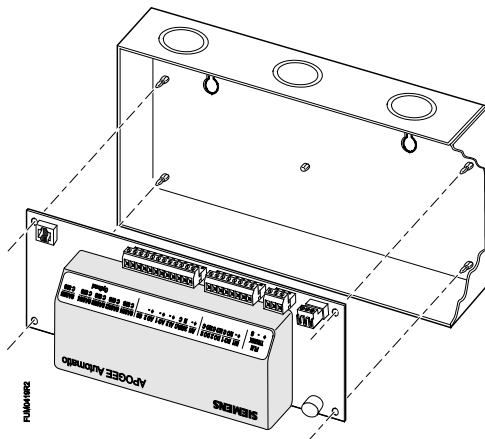
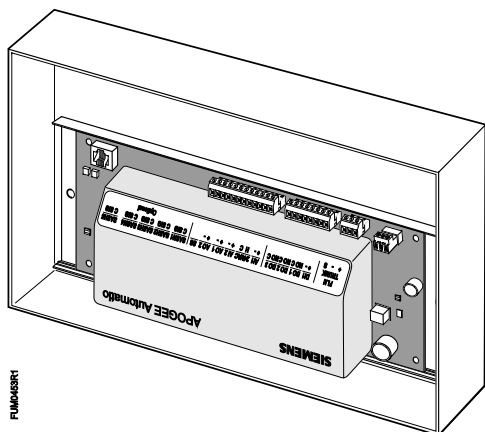

Figure 1. 2-Position Constant Volume Fume Hood Controller Board (Standard Enclosure).
Figure 2. 2-Position Constant Volume Fume Hood Controller Board (Other enclosure).
The 2-Position Constant Volume Fume Hood Controller Board (Figure 1 and Figure 2) is the main termination board for the Fume Hood Controller. The board comes with a ferrite filter to suppress electrical emissions from the 8-conductor cable. The ferrite filter must be installed to meet FCC and CE requirements.
- Center the controller board over the mounting posts in the bottom of the controller enclosure (Figure 1). Insert the corner holes of the board onto the mounting posts. Press firmly on the board to snap it securely into place. Repeat for all controllers.
- Secure the mounting rail inside the enclosure at the controller's desired location and snap it into place on the mounting rail (Figure 2). Repeat for all controllers.